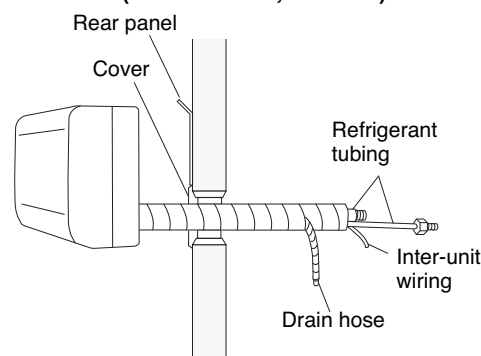

Fig. 35a
- (1) Shape the refrigerant tubing so that it can easily go into the wall hole. (Fig. 35a or 35b)